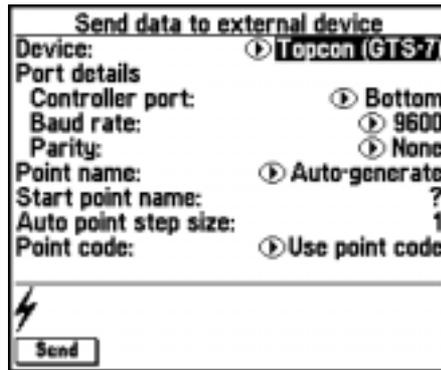

Figure 9.6 Send ASCII Data (to external device) screen
1. Select *Files /Import/Export / Send ASCII data*. Figure 9.6 shows the screen that appears.